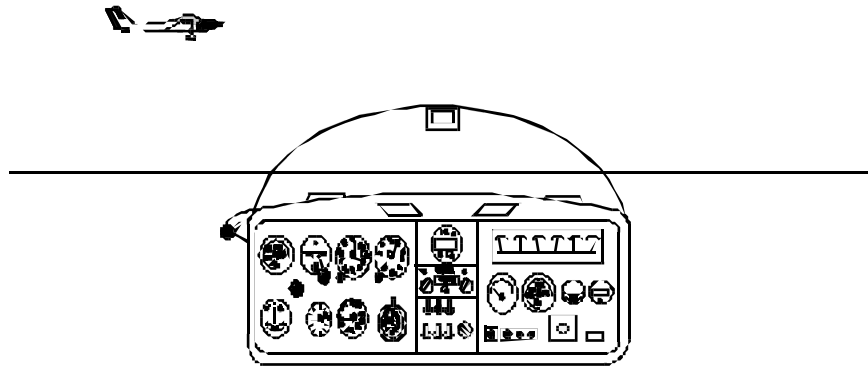

FIG 2. " AIRCRAFT LEFT 11 O'CLOCK HIGH".
2. **Airmanship - clock code.** Airmanship is the airborne equivalent of road craft and is a skill which develops with experience. It includes awareness of other traffic, remaining within safe gliding range of a suitable landing area, considering the effect of approaching weather, and maintaining a high level of situational awareness. At the start of your training the instructor takes full responsibility for the airmanship but as your training progresses you will be expected to develop a good standard of airmanship before being allowed to fly solo. This will include judging how to remain within gliding range of the airfield and keeping a good look out for other aircraft. Even on your first flight you provide another useful pair of eyes to see other aircraft and you should report any that you see to your instructor. At some stage you will be taught the use of the clock code to report sightings. This code assumes you are at the centre of a clock and therefore 12 o'clock is directly ahead, 3 o'clock is directly to your right, 6 o'clock directly behind you, and 9 o'clock directly to your left. So to report an aircraft that appears above the horizon and slightly left of directly forward you should say "Aircraft left 11 o'clock high". See Fig 2. If you can estimate the distance that will also be useful.